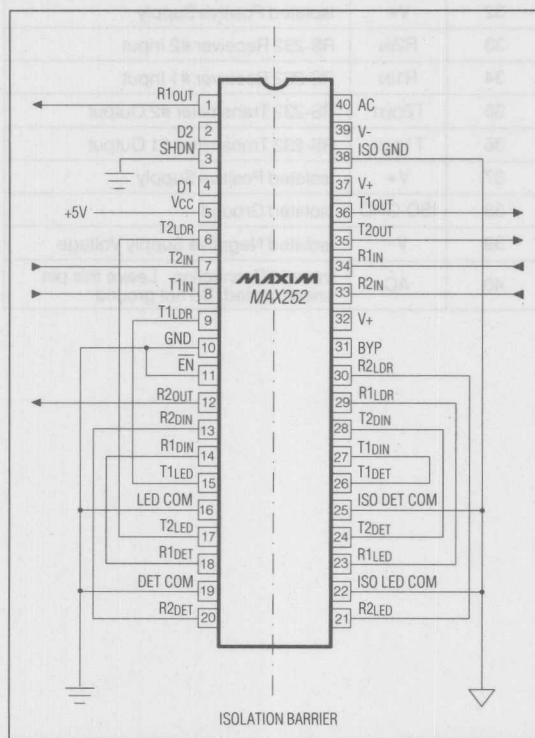

Figure 1. Typical Interconnections
Figure 1 shows the typical interconnection for a complete 9600 bits/s transceiver. Important layout considerations include:
* for maximum isolation, the "isolation line" through the center of Figure 1 should not be breached; connections from each side should be kept separate.